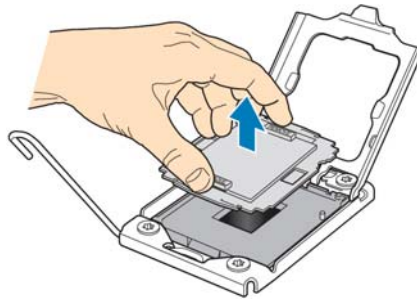

Figure 30. Removing the Processor Socket Protective Cover
7. Remove the processor socket protective cover: Grasp the socket protective cover by the two tabs and carefully lift it straight up as shown in Figure 30.